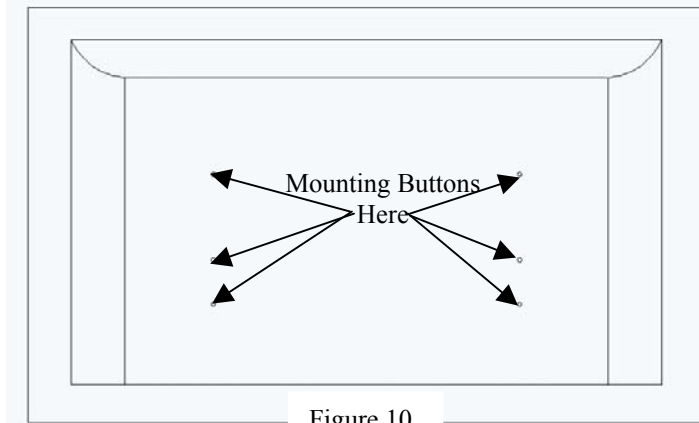

Figure 10
1. Attach six mounting buttons to display using six M6 x 25mm Phillips head screws provided (see Figure 10).